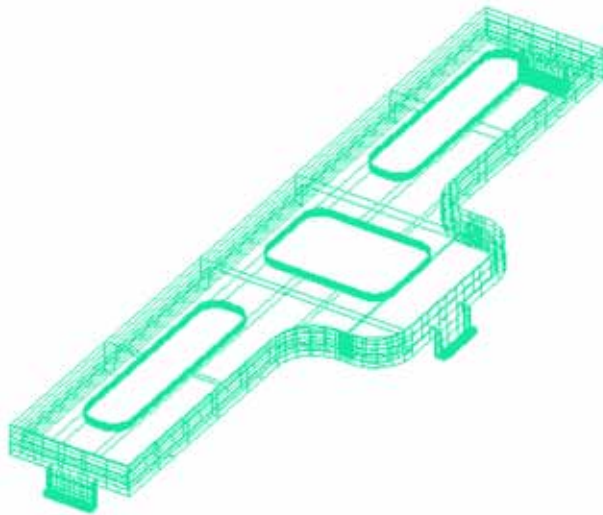

Figure 13: IGES Representation of the Snap Cover Model
- The imported model should look like Figure 13.
The IGES model shown in Figure 13 has been displayed using the Net setting. IGES surfaces can also be displayed as: